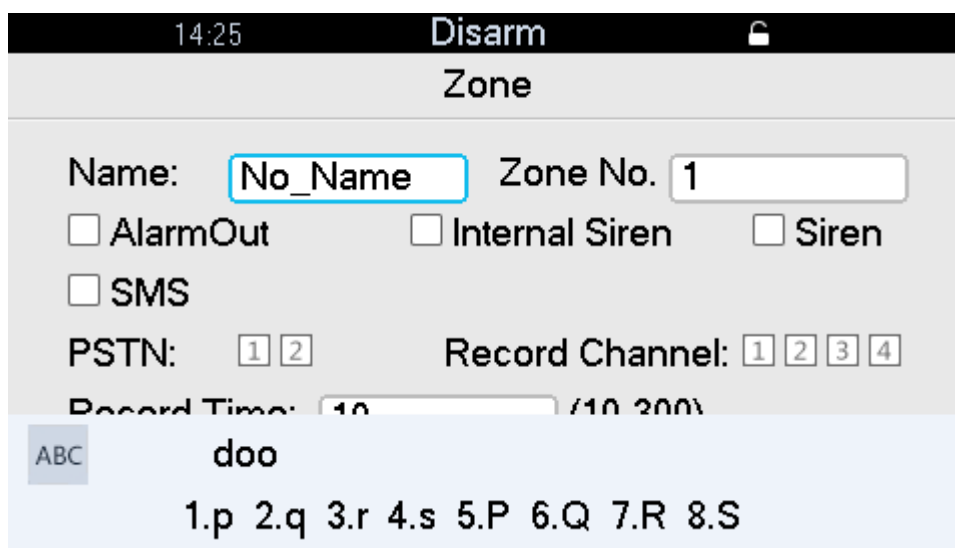

Figure 4-47
Step 1 At zone configuration interface, press [^] or [v], select name text box and press [OK]. Input method will pop up, as shown in Figure 4-47.